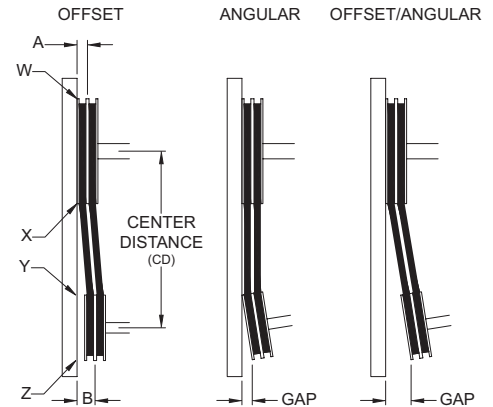
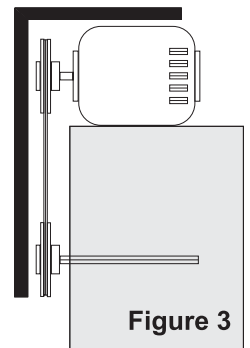

Figure 2
Figure 3
4. Ensure pulleys are properly aligned. Refer to *Figure 2*.
Figure 2 indicates where to measure the allowable gap for the drive alignment tolerance. All contact points (indicated by WXYZ) are to have a gap less than the tolerance shown in the table. When the pulleys are not the same width, the allowable gap must be adjusted by half of the difference in width (as shown in A & B of *Figure 2*). *Figure 3* illustrates using a carpenter's square to adjust the position of the motor pulley until the belt is parallel to the longer leg of the square.